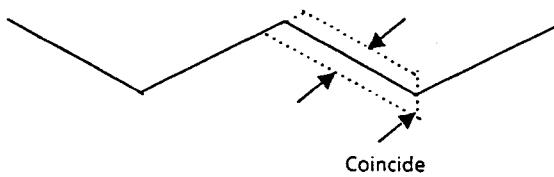

Fig. 4-24
- Adjust VR27 so that the offset of the end of triangle waveform becomes $0\text{ V} \pm 0.01\text{V}$. (Fig. 4-24)